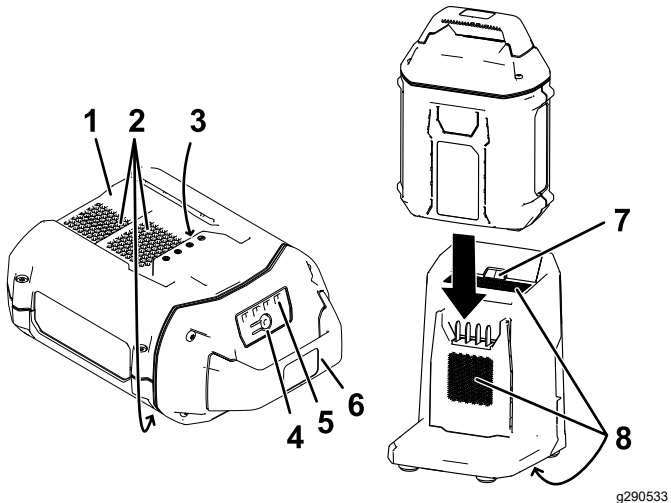

Figure 10
2. Line up the cavity in the battery pack (Figure 10) with the tongue on the charger.
3. Slide the battery pack into the charger until it is fully seated (Figure 10).